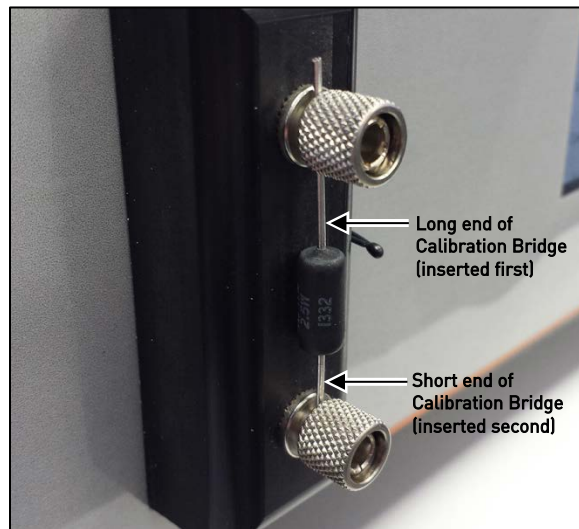

Figure 35 - Calibration Bridge in CAT-100 Binding Posts
2. Connect the Calibration Bridge to the binding posts. Do this by first inserting the **long end** of the Calibration Bridge into a binding post first, tightening that post, then inserting the **short end** of the Calibration Bridge in the other binding post, and tightening that post. See Figure 35.